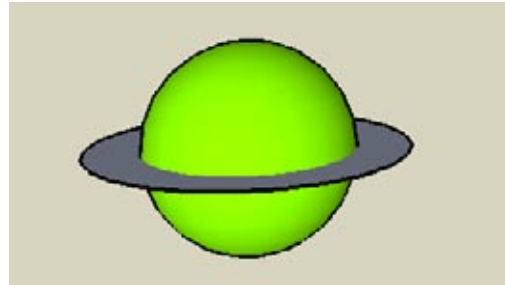

Figure 2-74
5. Select the larger circle as the path, and use Follow Me on the smaller circle. The resulting sphere is shown in Figure 2-74.